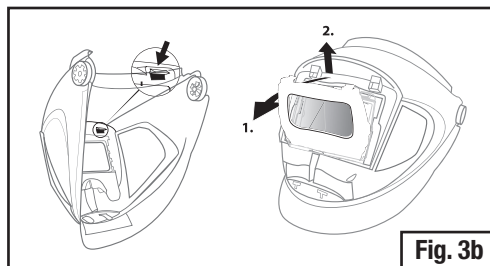

Fig. 3b
- Remove the ADF by pressing down on the blue tabs from the inside of the shield to release the latch mechanism, and then push the tab through the opening (Fig. 3b).